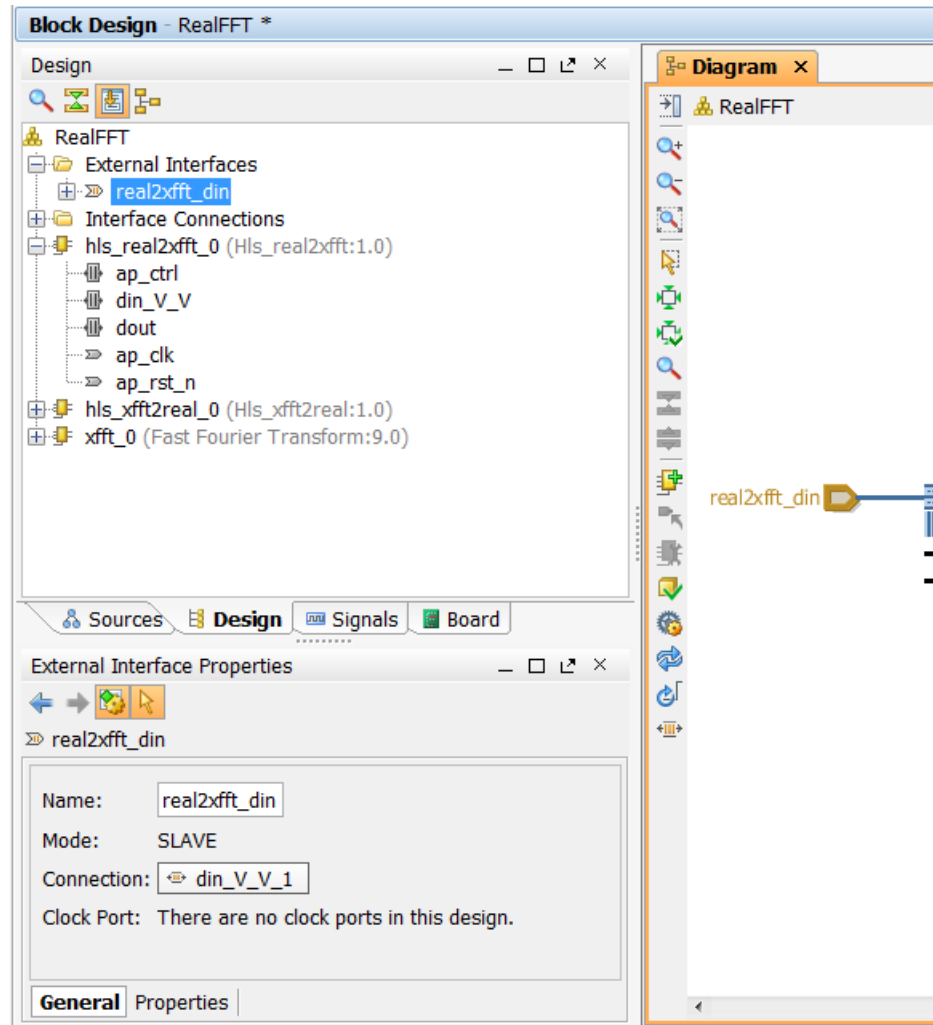

Figure 9-20: Port Naming
- b. In the External Interface Properties pane (Figure 9-20), click in the Name text entry box to highlight **din_V**.